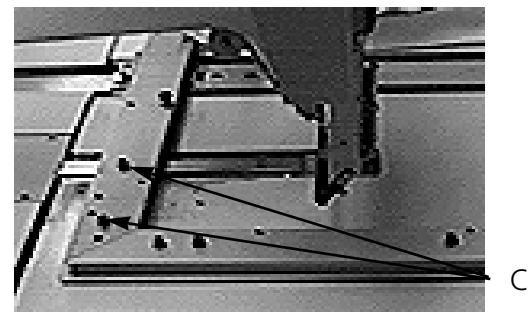

Figure 3-5
5. Referring to Figure 3-5, remove the two socket head cap screws designated as "C" at the far end of the sash frame (located below sewing head #12). Do not loosen or remove any other screws in this area.